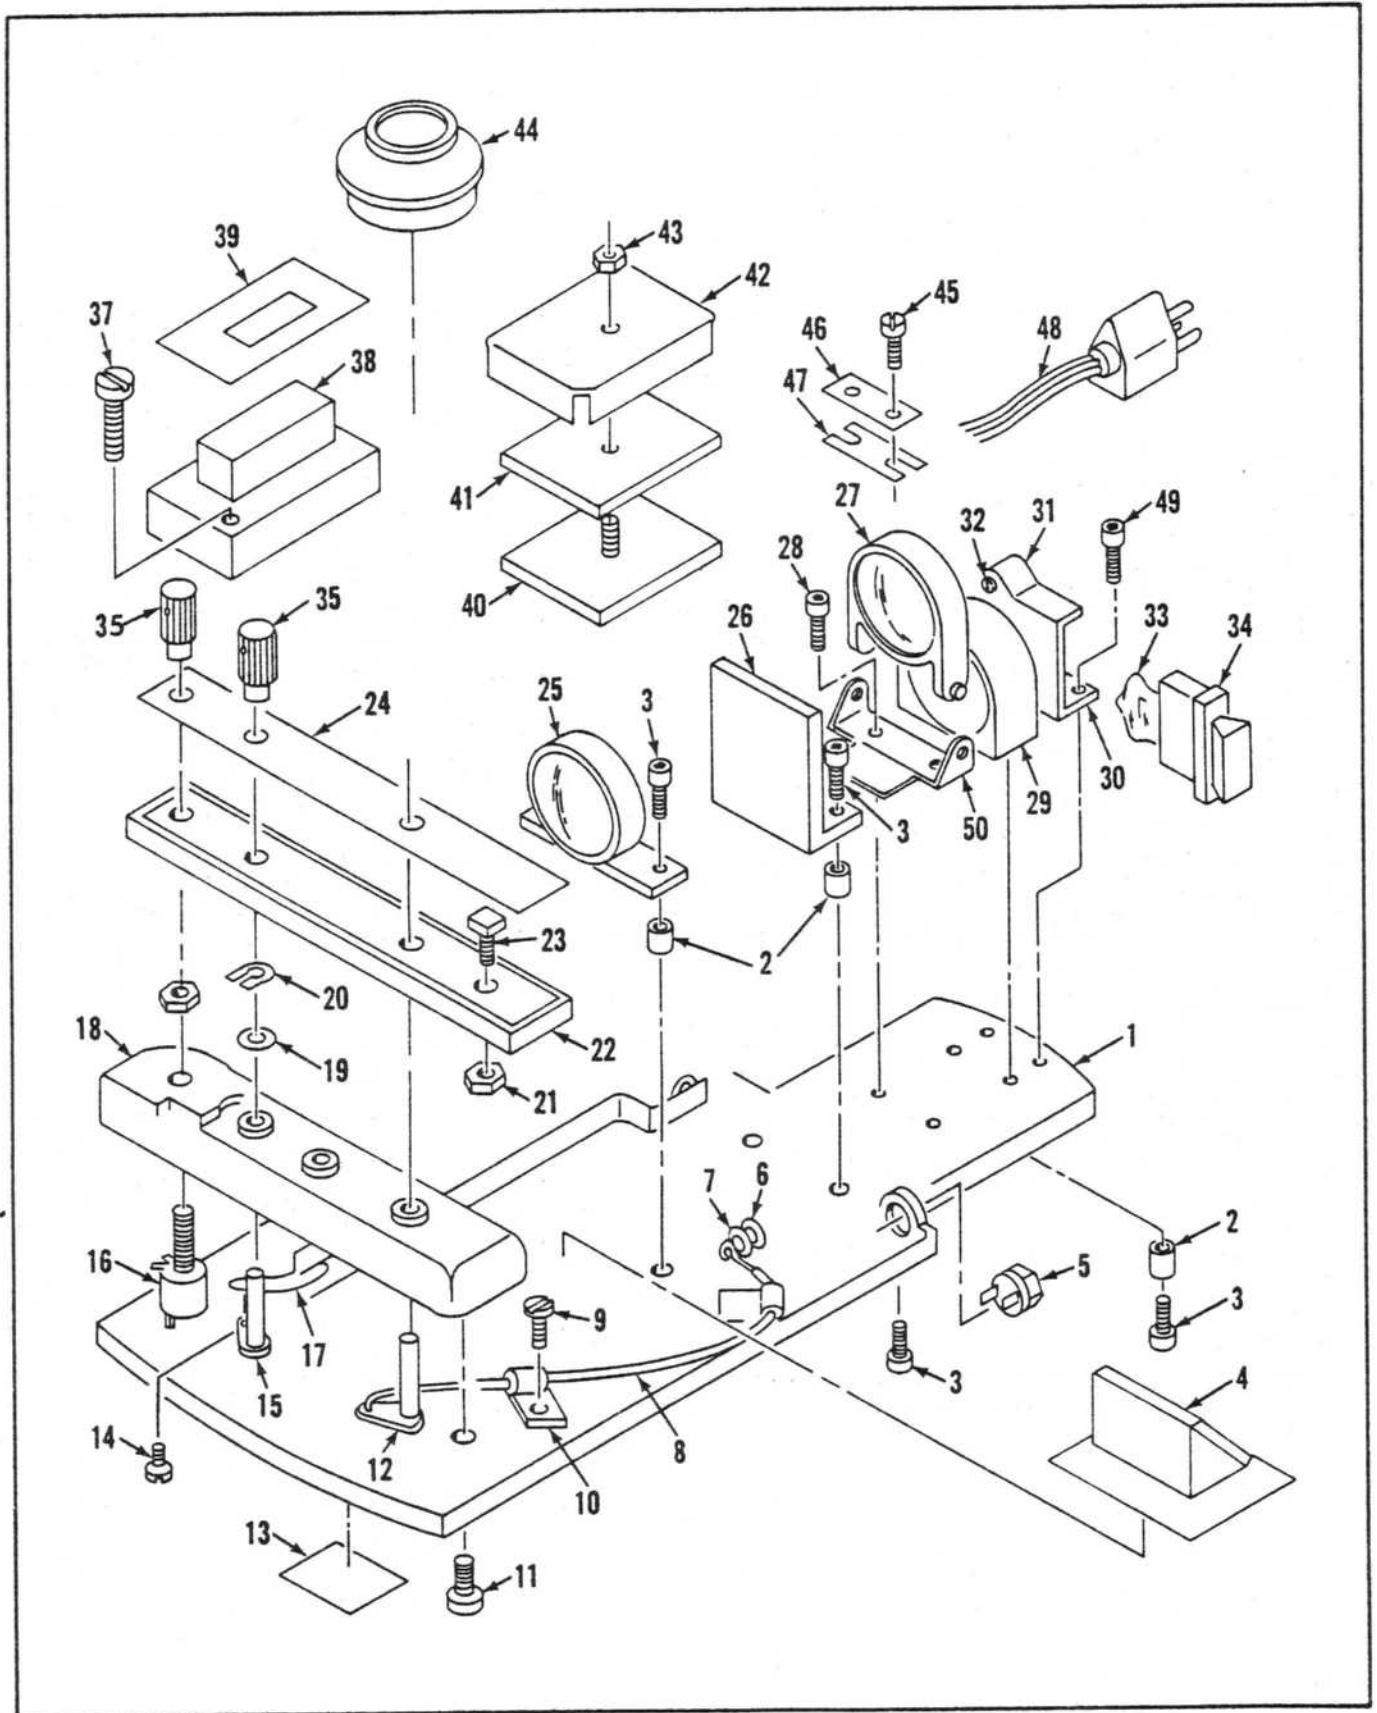

Figure 23 In-Base Transformer and Illuminator
7.6.4 Installation of PC Board (Refer to Figure 23)
- 7.6.4.7 Replace: (Refer to Figure 23)